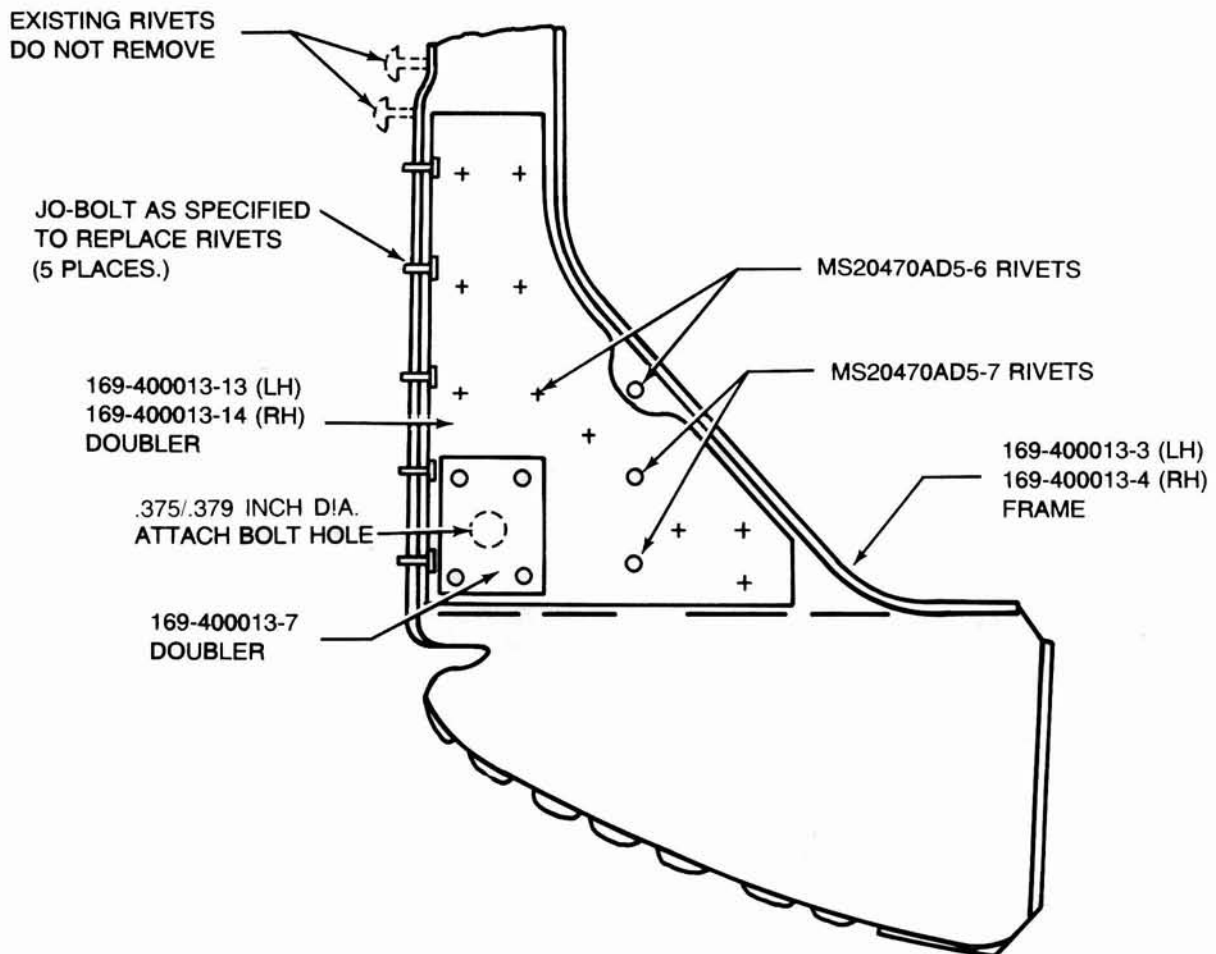

Figure 1.
3. Drill out the three rivets through the bracket and frame, and the five rivets through the outboard flange of the bracket and the fuselage skin (See Figures 1 and 2), and discard the bracket.